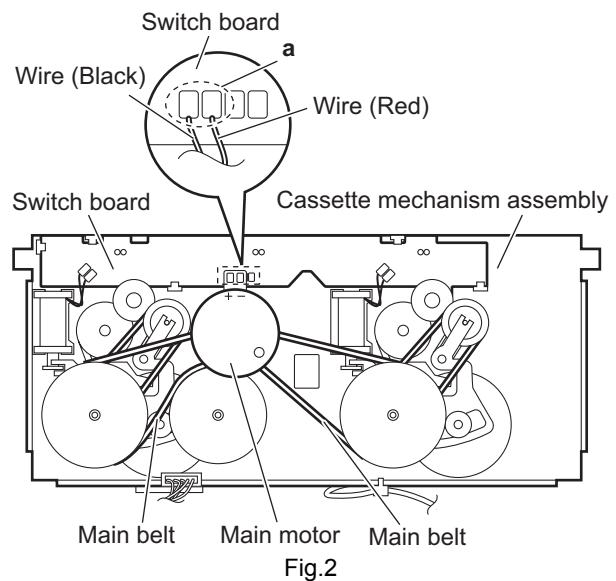

Fig.2
- From the back side of the cassette mechanism assembly, remove the wires from the soldered sections **a** on the switch board. (See Fig.2.)
After reassembling, check the direction of the main motor and polarity of the wires. (See Fig.2.)
- Remove the main motor and main belts. (See Fig.2.)